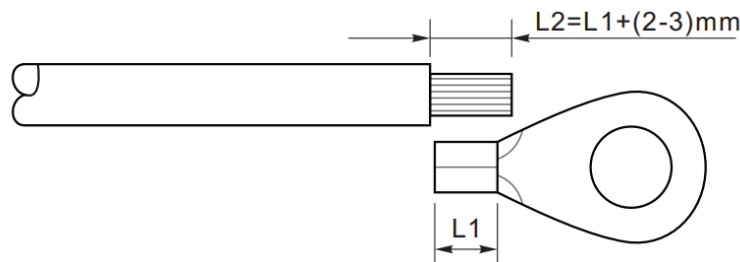

Figure 5-2 Grounding connection instruction (1)
Step 1: Remove the insulation layer with an appropriate length using a wire stripper shown as figure 5-2